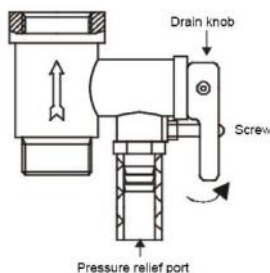

Fig 5
4. Screw the safety relief valve on the inlet nozzle, which is marked in blue and has a water flow direction arrow in such a way that the water flow coincides with the direction of the arrow on the valve body. Put the water drainage tube* (water may appear during heating) on the pressure relief port of the safety relief valve to allow water drainage into the sewer (see Fig. 5) (the tube must be directed downwards and must not be bent).
6. To drain the internal tank, use the safety relief valve: unscrew the screw of drain knob on the safety relief valve and move the drain knob to the up position — the hot water outlet tap must be open and the cold water inlet tap must be closed (see Fig. 5). Water will start flowing from the pressure relief port of the safety relief valve.